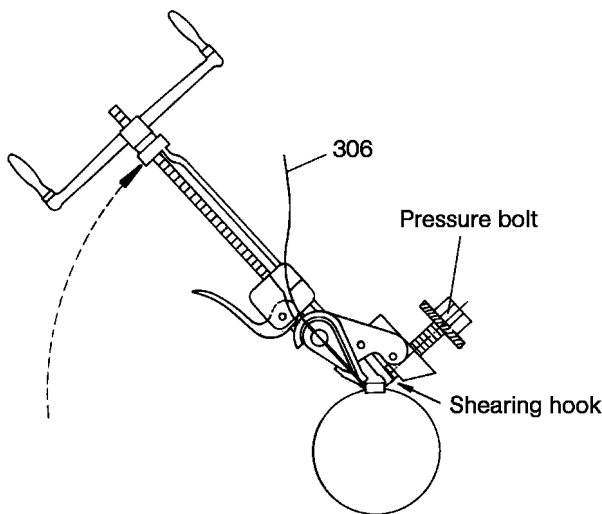

Figure 11: Shearing of the clamping band.
- Check whether on the entire circumference of the cover sleeve (308), the clamping band (306) lies in the sleeve groove.
- Slowly turn clamping tool upwards through approx. 60° until the shearing hook grips behind the clamping band lock (please refer to Figure 11 below).